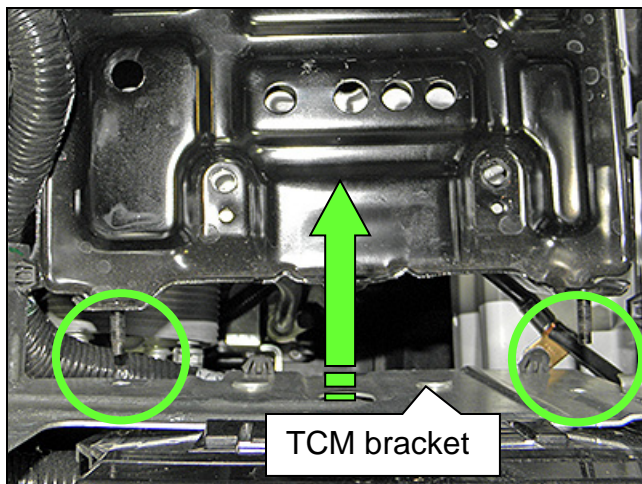

Figure 9
- c. Carefully slide the battery tray toward the rear of the vehicle, to remove studs from TCM bracket (Figure 9), and then lift at the front edge of battery tray (Figure 10).